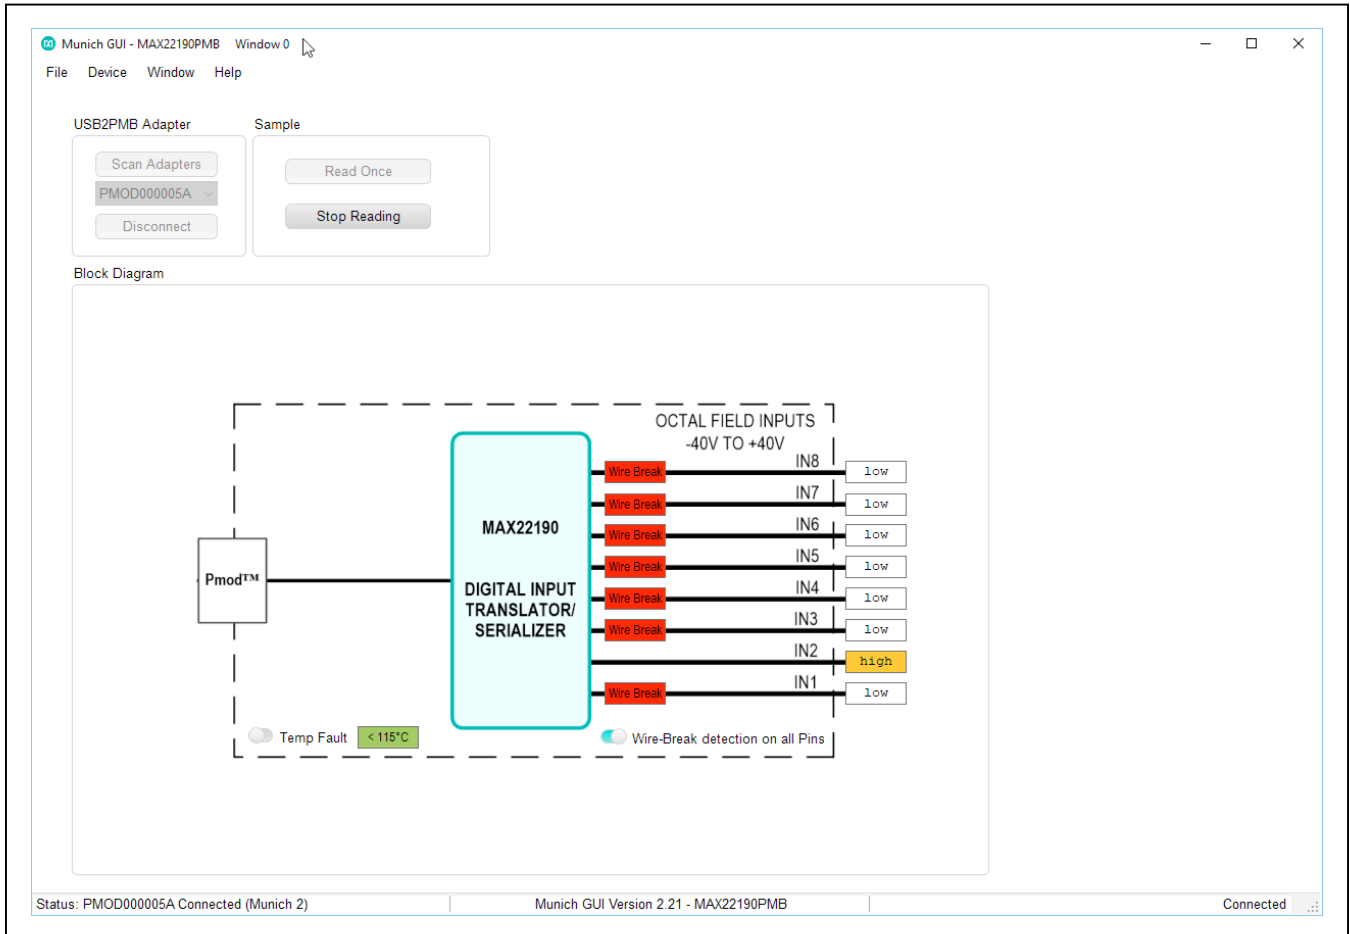

Figure 7. MAX22190PMB# Software IN2 High
- 11) Connect the positive output of the DC voltage supply to X2 Pin 3. Observe that LED2 (green) should be turned on, and the Munich GUI should show high on IN2, and IN2 Wire Break box should disappear. See Figure 7. *Note: On connector X2, the GND pins are next to the input pins. When connect 24V to the input pins, care should be taken not to connect to the GND pins, in case a short is created on the board and voltage supply.*
and the Munich GUI should show **High** on IN2, and IN2 **Wire Break** box should disappear (see Figure 7).